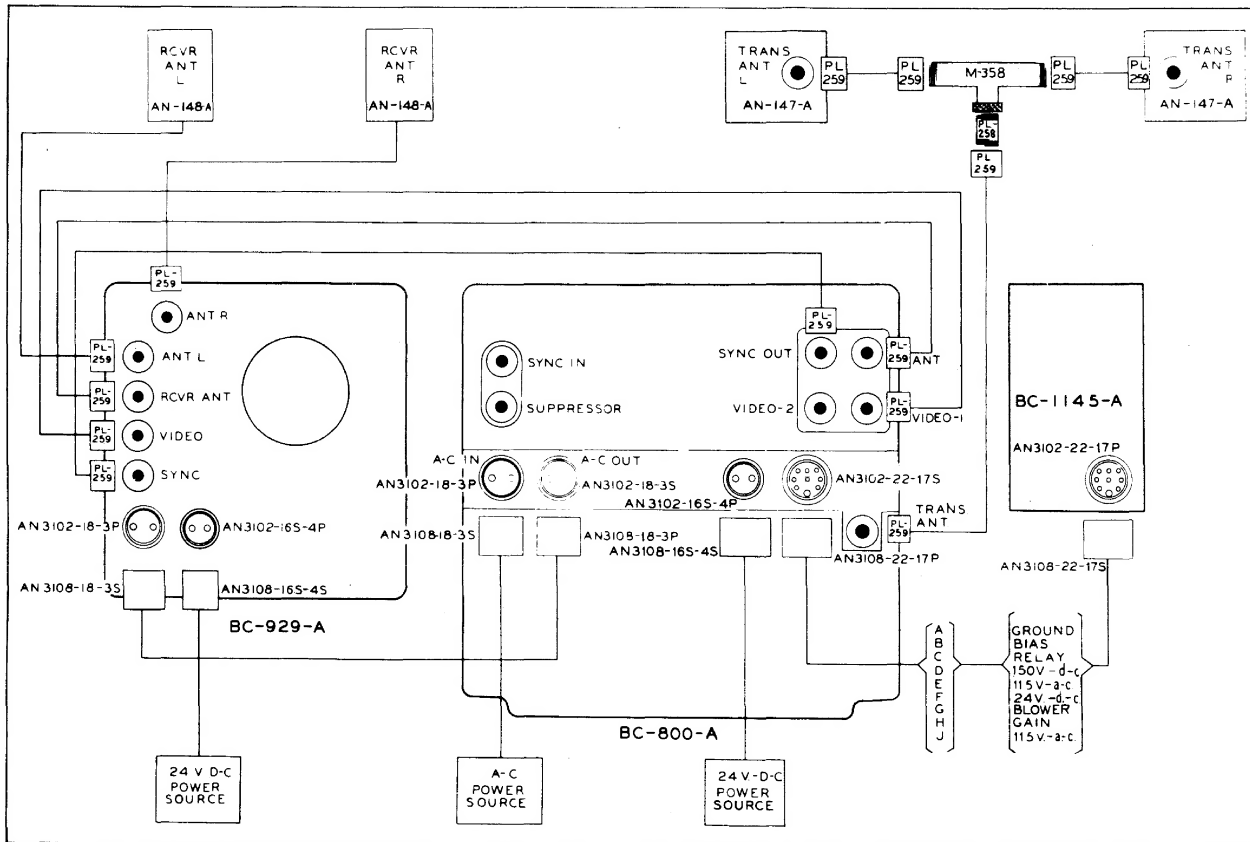
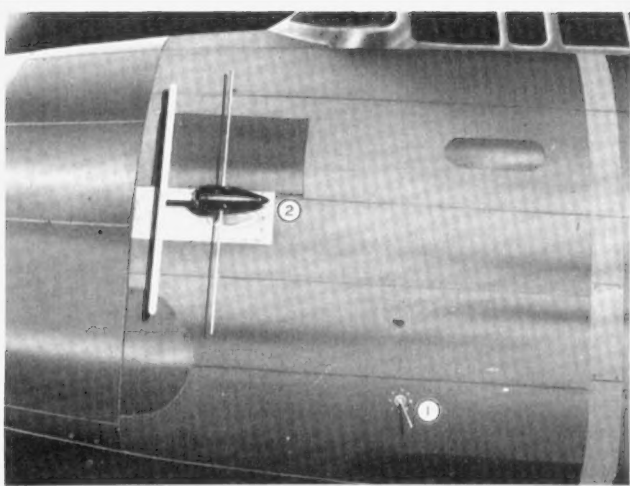
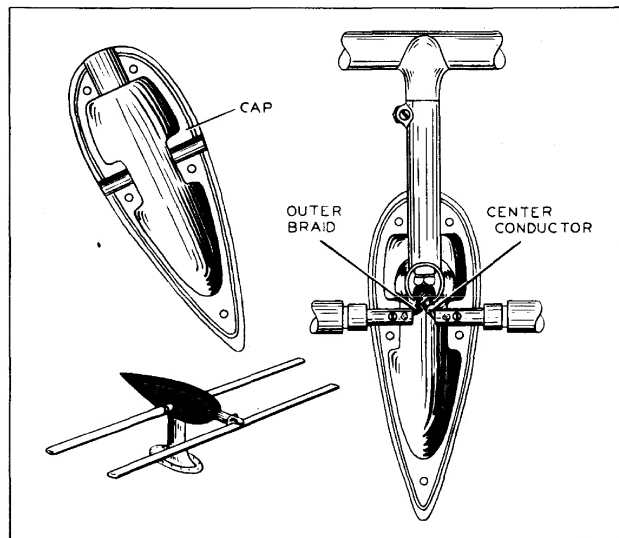
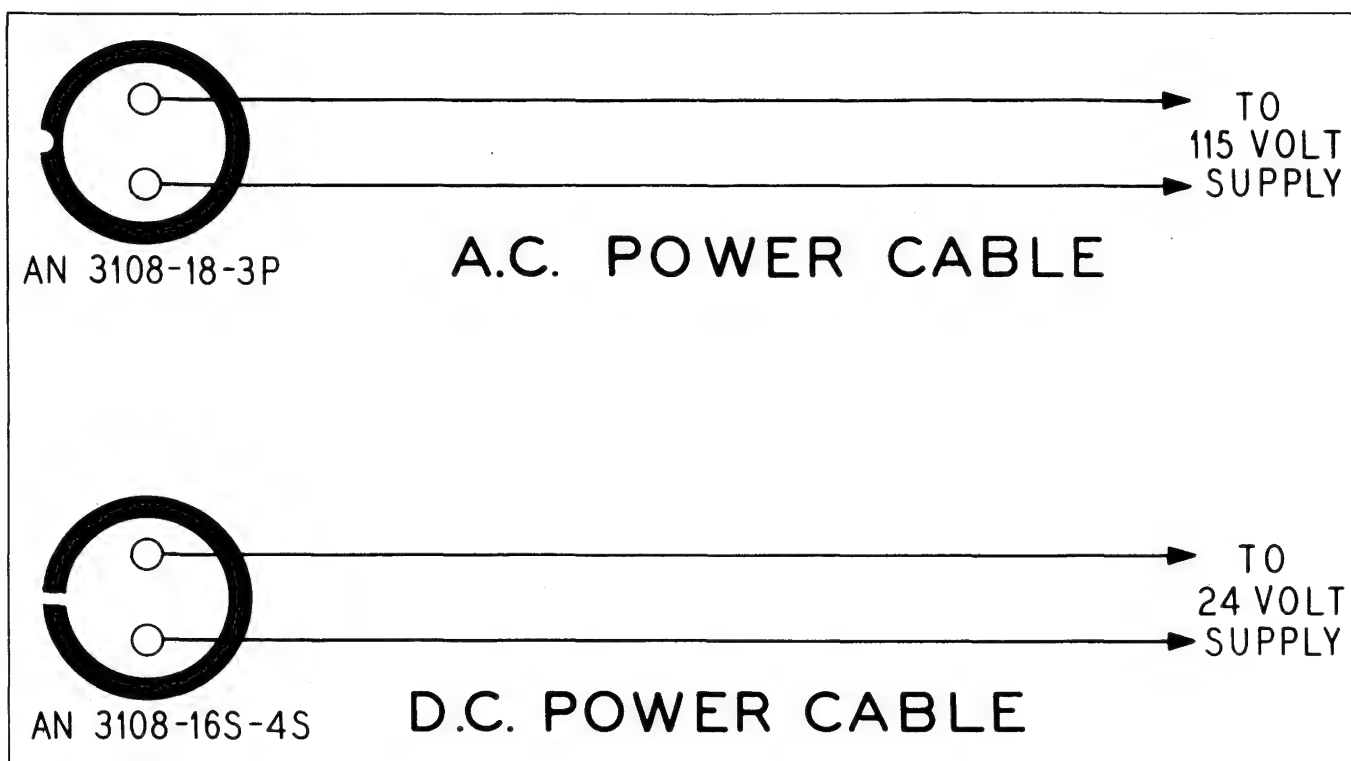

Figure 6 — Cording Diagram
Figure 7 — Left Side of Airplane showing
Figure 8 — Coaxial Cable Connections to
Figure 10 — Power Cable Diagram
is made according to the cording diagram, figure 6. Details of the antenna installation are given in figure 7 and the method of connecting the coaxial transmission lines to the receiving antennas is shown in figure 8. Details for making up the coaxial cables, power cable and control cable are given in figures 9, 10, and 11.
e. ANTENNAS AN-148-A (RECEIVING).—Mount the two receiving antennas on opposite sides of the fuselage near the nose of the airplane so that maximum use of their directional characteristics is achieved. (See fig. 7.) Coaxial cable connections are shown in figure 8.
f. ANTENNAS AN-147-A (TRANSMITTING).—Place the two transmitting antennas on opposite sides of the fuselage toward the front of the airplane. (See fig. 7.) Adaptor M-358 and Plug PL-258 are used to apply the output signal of the transmitter to both antennas. (See fig. 6.)
g. CORDING AND CABLES.—All cordage for connecting the components of the radio set should be cut and connected carefully. (See figs. 6, 9, 10, and 11.) Cords used for antennas are made up of Cable RG-8/U. Cables for carrying the video and synchronizing voltages between the various components and to the associated equipment shall be made of Cable RG-8/U. The shield of all these coaxial cables is grounded through the coaxial connector. (See fig. 9.) Cords carrying the power for the radio set are made from standard aircraft power and lighting cable. (See figs. 10 and 11.) The length of the various cables differs with each type of airplane installation.
(1) Check the mountings of the various components.
(2) Check the transformer connections.
(3) Check the fuses.
(4) Check the cords, using the cording diagram, figure 6.
(5) Turn the "GAIN" control on Radio Control Box BC-1145-A and the "INTENSITY" control on Indicator BC-929-A to the maximum clockwise position.